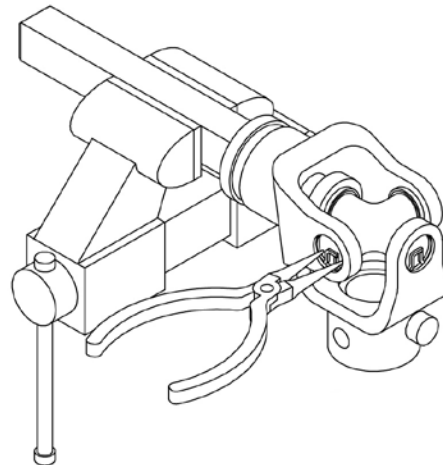

Figure 19. Remove Snap Ring
1. Remove external snap rings from yokes in four locations as shown in Figure 19.